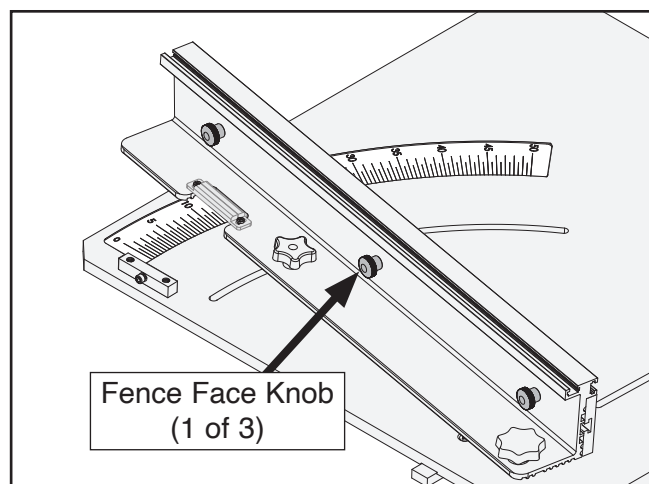

Figure 18. Location of fence face knobs.
1. Loosen (3) fence face knobs (see **Figure 18**).